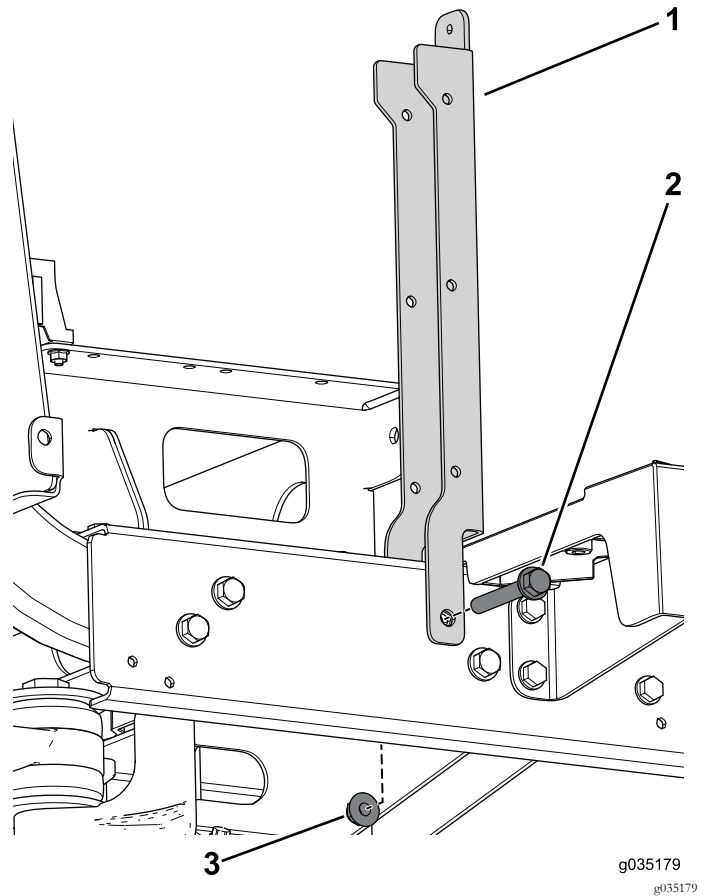

Figure 85
4. Use the flange bolt (3/8 x 2-1/2 inches) and flange nut to secure the seat support (Figure 85).